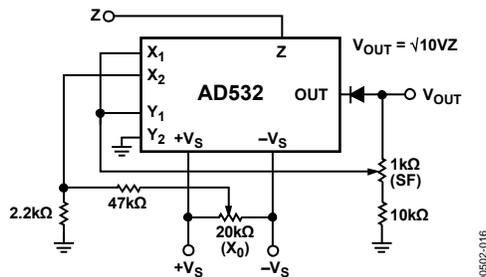

Figure 17. Square Rooter Connection
The connections for square root mode are shown in Figure 17. Similar to the divide mode, the multiplier cell is connected in the feedback of the op amp by connecting the output back to both the X and Y inputs. The diode D_1 is connected as shown to prevent latch-up as Z_{IN} approaches 0 V. In this case, the V_{OS} adjustment is made with $Z_{IN} = +0.1$ V dc, adjusting V_{OS} to obtain -1.0 V dc in the output, $V_{OUT} = -\sqrt{10 V Z}$. For optimum performance, gain (SF) and offset (X_0) adjustments are recommended as shown and explained in Table 5.